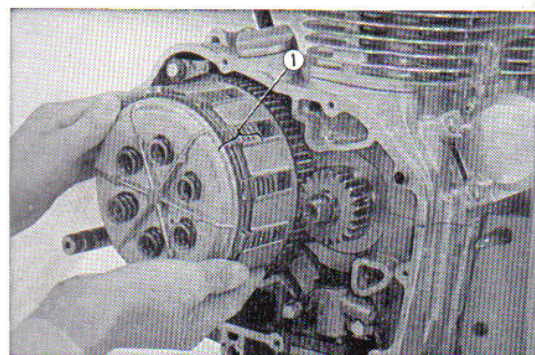

Fig. 3.84 Removing friction disc and clutch plates
3. Unscrew the six 6mm bolts and remove the clutch spring pressure plate, friction disc and clutch plate. (Fig. 3.84)